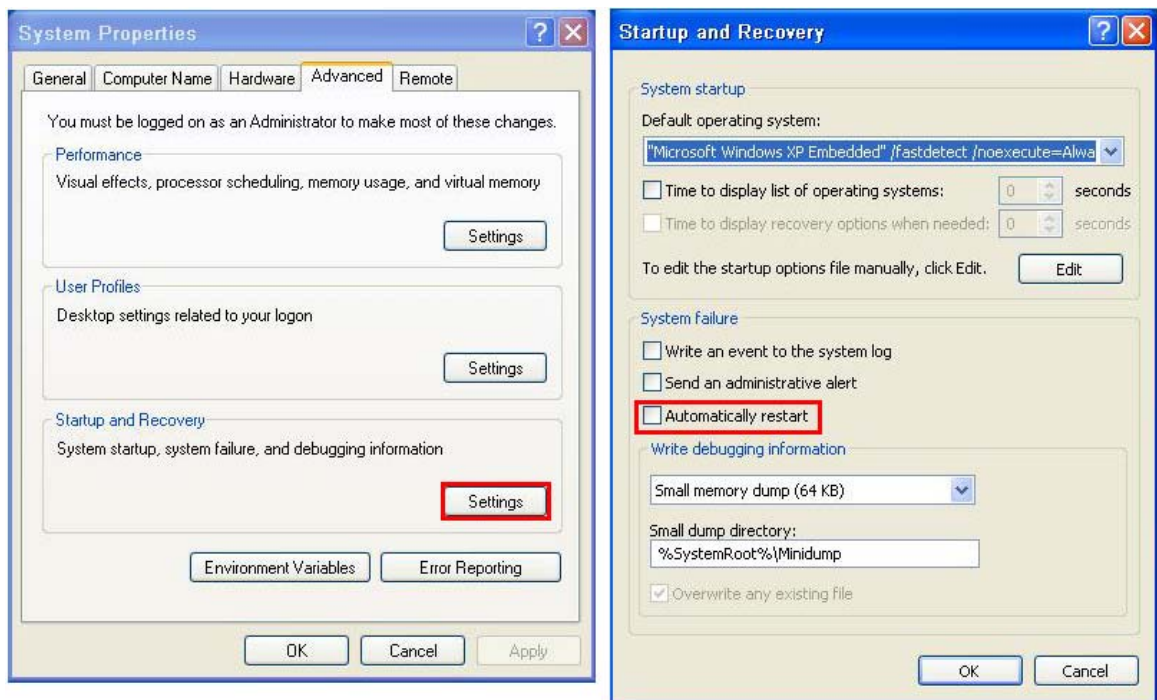

Figure C-23: Disable Automatically Restart
Step 3: **Disable the automatically restart function before creating the factory default image.** Go to: My Computer → Properties → Advanced. Click the Settings button of Startup and Recovery. Deselect “Automatically restart”. Click OK to save the settings and exit. (See Figure C-23)